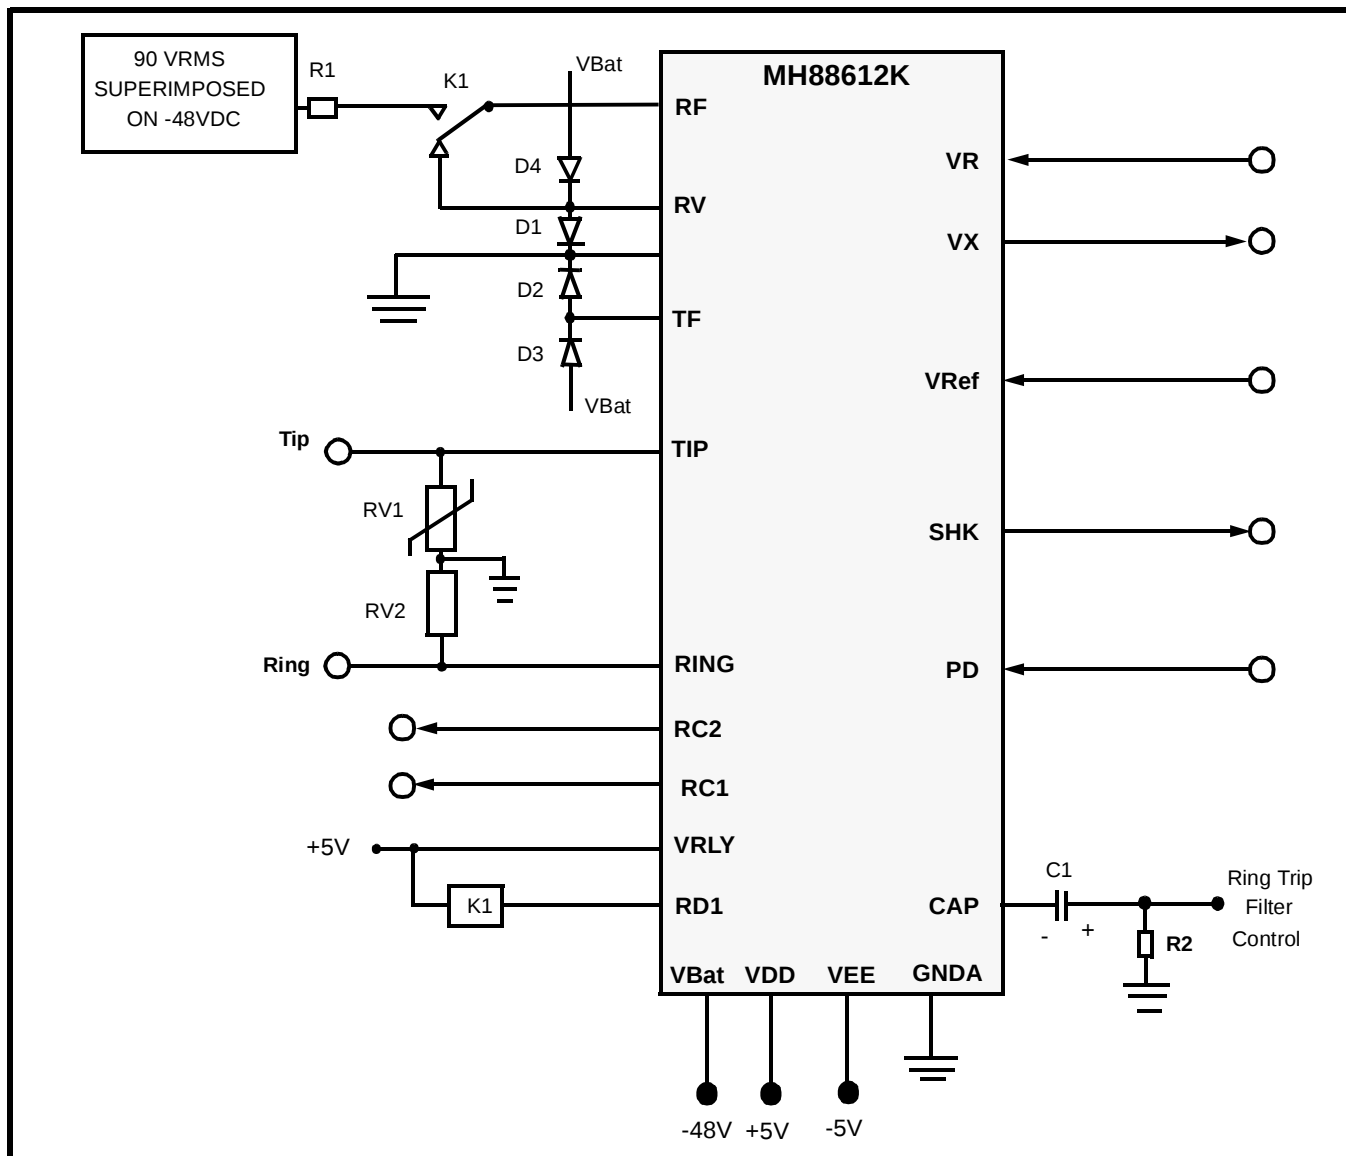

Figure 3 - Application Circuit
In Figure 3 a ringing signal (e.g., 90 Vrms +/-48 Vdc is applied to the line by disconnecting (RV) from (RF), and connecting the ringing voltage at (RF) by